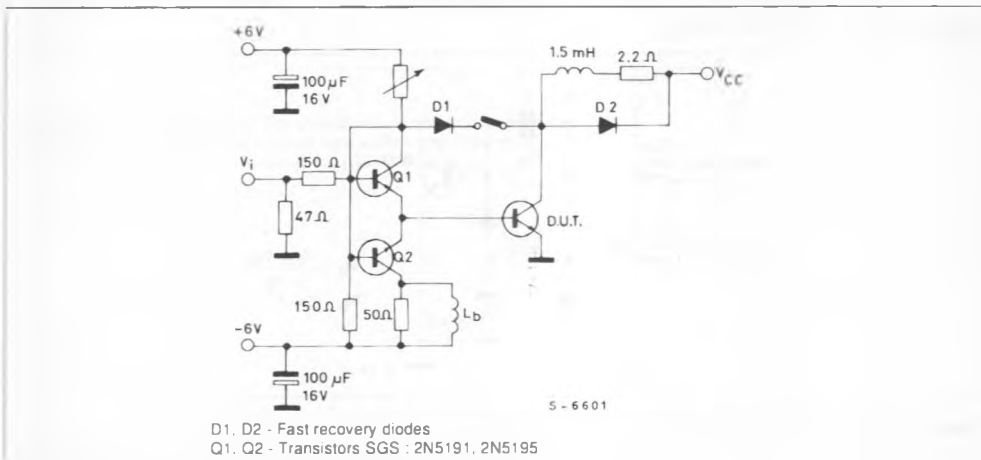

Figure 2 : Switching Times Test Circuit on Resistive Load.
**RESISTIVE SWITCHING TIMES** (fig. 2)
Switching Times Resistive Load (see fig. 2).